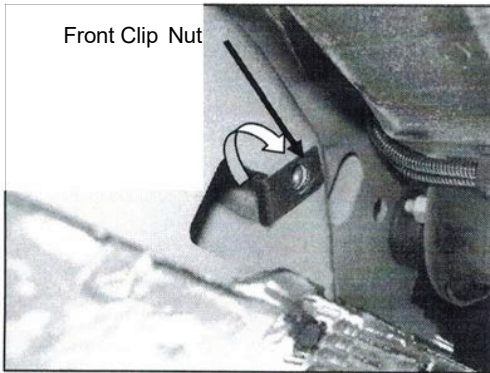

Figure 1
2. From underside of vehicle, locate the two front factory holes on the driver side floor panel located by the front tire. With the threaded nut facing up, insert (1) 10mm Clip Nut through larger hole. Orient Clip Nut to engage in the smaller hole (Figure 1).